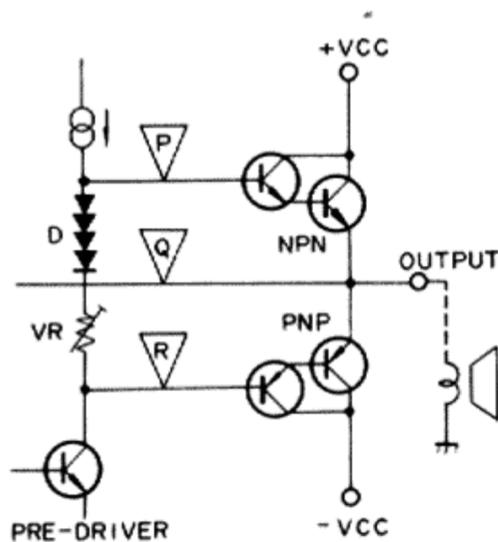
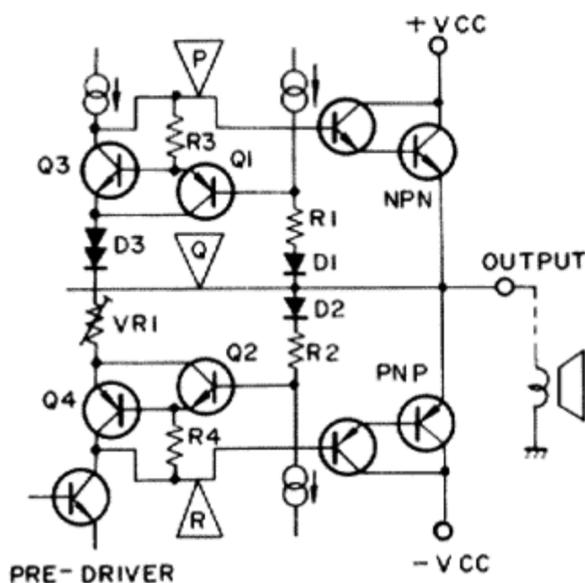

Fig. 4 Normal class B SEPP power stage
Fig. 5 Outline of NSA circuit
Since idle current flows through normal class B SEPP power stages (see Fig. 4) when no signal is applied, the DC level is shifted by D and VR by a fixed amount (with the voltage across points (P) and (R) serving as a bias). The voltages across points (P) and (Q), and (Q) and (R) at this time will be equal. When the positive portion of a signal
This NSA circuit is outlined in Fig. 5. When there is no signal applied to the circuit, Q_1 and Q_2 are almost cut off, while Q_3 and Q_4 will be on. The voltage across the collector and base of both of these transistors (Q_3 and Q_4) at this time may be disregarded. Consequently, with the power stage bias circuit consisting of 4 PN junctions formed by Q_3 , D_3 , and Q_4 , and VR_1 , this circuit is equivalent to the previous circuit shown in Fig. 4.